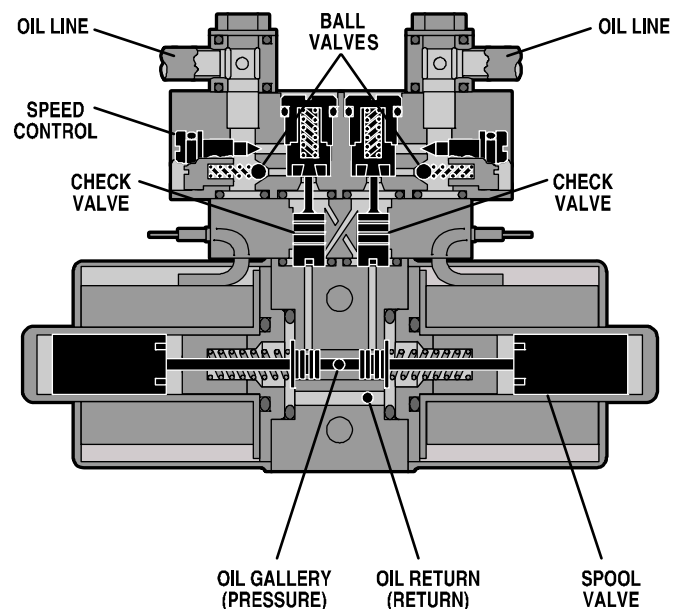

Figure 1-6. Mini-Valve in Neutral Position
d. Mini-valve in neutral position- (No fluid flow) See figure 1-6.